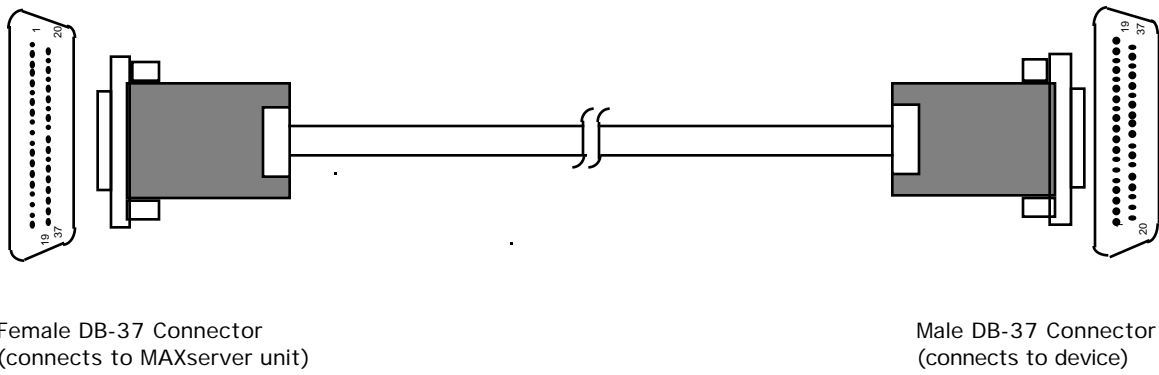
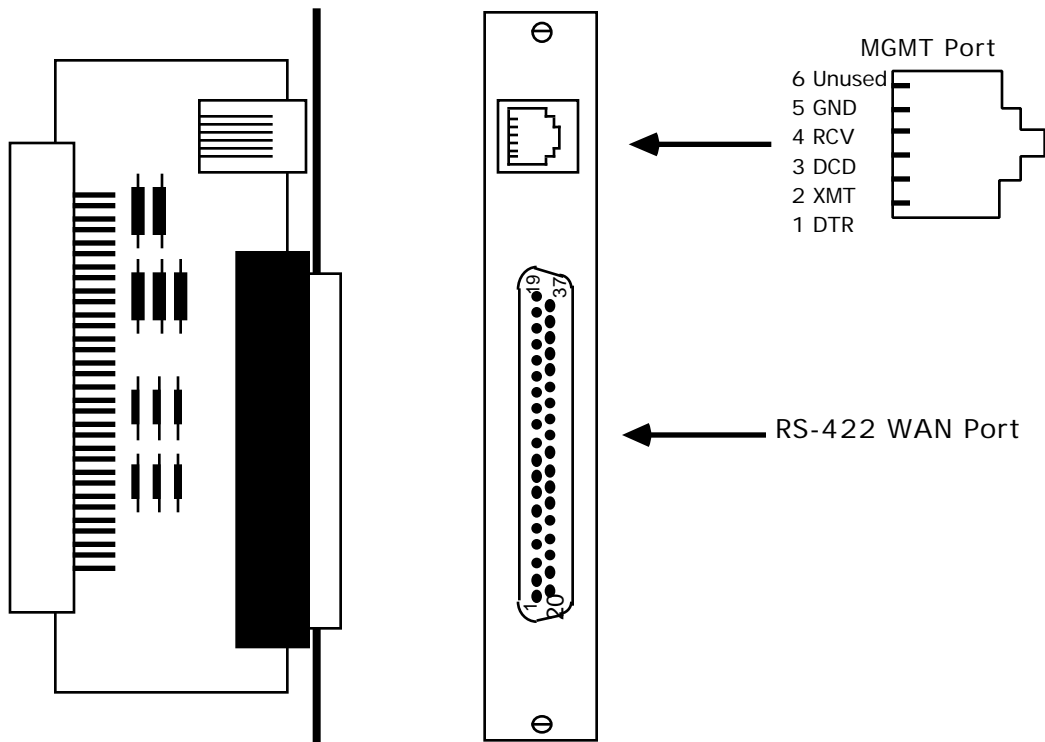

Figure 3-4. Xyplex-Supplied RS-422 Cable
Figure 3-5. RS-422 I/O Module
- **RS-422 cable, male DB-37 (37-pin) connector to female DB-37 connector, 4.57 m (15 ft).** The female DB-37 connector attaches to the RS-422 I/O module, and the male DB-37 connector attaches to the device. The Xyplex-supplied cable consists of 10 twisted pairs, a foil shield and a drain wire. Figure 3-4 shows the cable and the location of the pins in the connectors at each end of the cable. Table 3-2 describes the signalling scheme for this cable. Figure 3-5 shows the RS-422 I/O module.